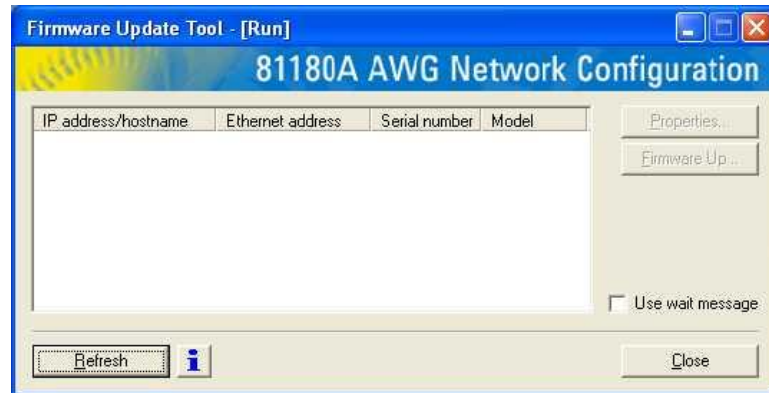

Figure 5-2: The 81180A AWG Network Configuration Utility
The '81180A Firmware Update' window lists Agilent devices found on your subnet. *Figure 5-2* shows an example of this display.
3. Click on the "Use wait message" to select this option as shown in *Figure 5-2*.